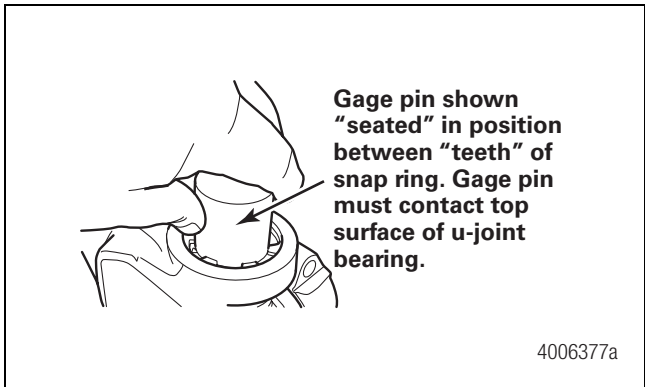

Figure 3
- **If snap rings are installed in the weld yoke and slip yoke ear grooves:** **Note:** If there is paint on the snap rings, use a pen knife or screwdriver to remove the paint before you use the gage tool. Insert the gage tool (part number PNR26-24-1) to verify that the snap rings are seated correctly. Figure 3. If the gage fits between the snap ring teeth and contacts the top surface of the universal joint bearing, the snap ring is seated correctly.